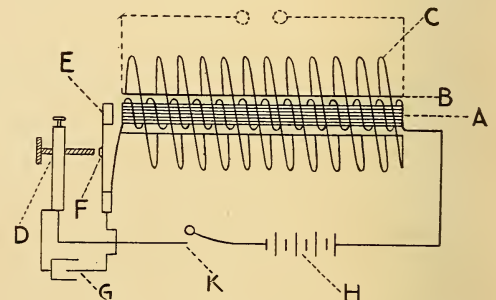

FIG. 1. VIBRATOR FOR WIRELESS TELEGRAPH.
From the above it is readily understood that some means for rapidly "making and breaking" the primary circuit is necessary. In fact the efficiency of small size coils depends to a large extent on this current "breaker" or vibrator as it is usually termed. The action of a vibrator is shown in the sectional view of the spark coil, Fig. 1. The vibrator consists of the soft iron disk (E) screwed to the spring strip